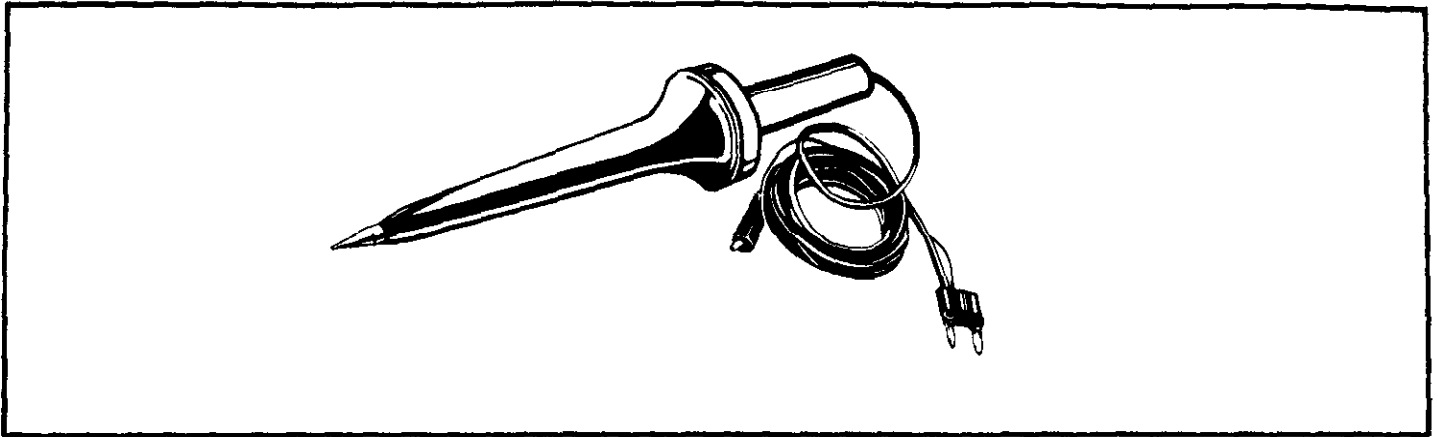

FIGURE 2-4. Model 1600 High Voltage Probe.
- a. Model 1600 High Voltage Probe. The Model 1600 High Voltage Probe (shown in Figure 2-4) extends the measurable dc voltage range up to 40 kilovolts. It has a 1000:1 division ratio, so that a reading of 1 volt on the DMM corresponds to 1 kilovolt (1000 volts). To use the probe, select DCV and the required range, connect the high voltage probe banana plug to the instrument, connect the alligator clip to source low and touch the probe tip to source high.